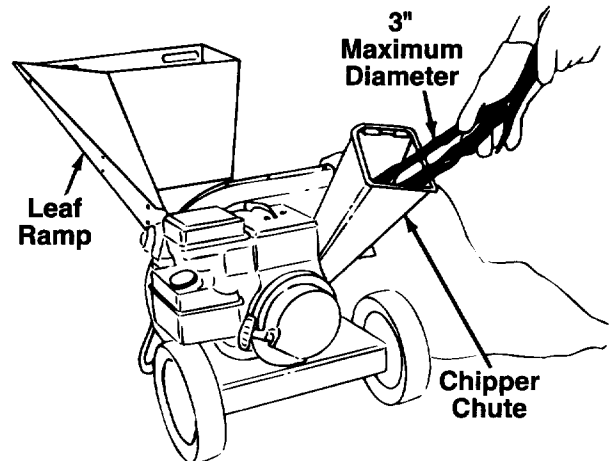

FIGURE 11.
3. Bulky material, such as stalks or heavy branches, **up to 3" in diameter** should be fed into the chipper chute. See figure 11.